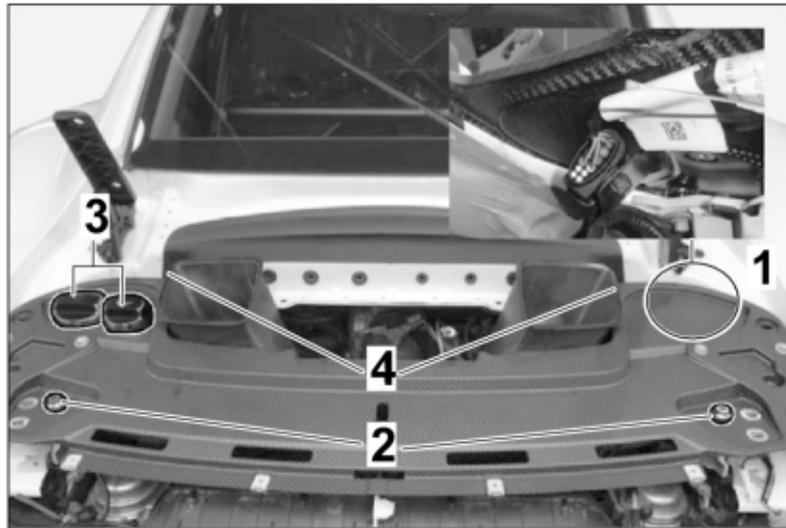

Figure 58
22. – When attaching the mounting bracket, the central plug must be reconnected to the plug on the vehicle ⇒ *Figure 58 -1-*.
23. – Place two of the standard screws at the lower fastening points by hand ⇒ *Figure 58 -2-*.
24. – install the two sealing caps for engine oil and cooling water ⇒ *Figure 58 -3-*.
- 25. – Fasten the mounting bracket behind the left air inlet with a new M6 x 30 screw ⇒ *Figure 58 -4-*.
- 28. – Tighten standard screws (step 23) ⇒ *Figure 58 -2-*: **Tightening torque 35 Nm (25.81 ft-lb)**